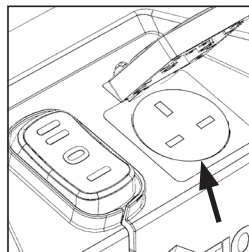

FIG. 1
- Connect the mains plug of the electric power tool to the vacuum cleaner plug socket on the main body. **(Fig. 1)**